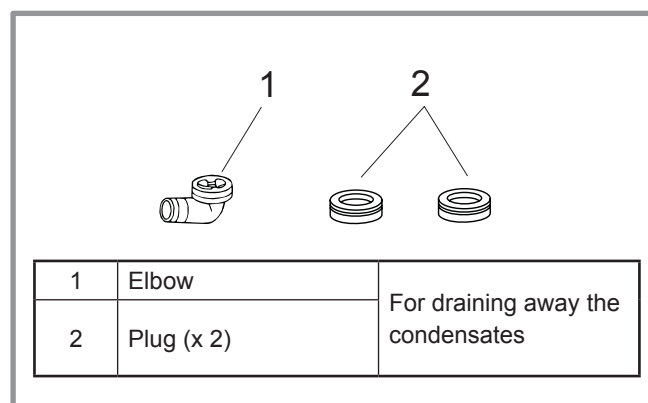

Figure 10 - Accessories provided with the outdoor unit
- Accessories provided with the outdoor unit (figure 10).